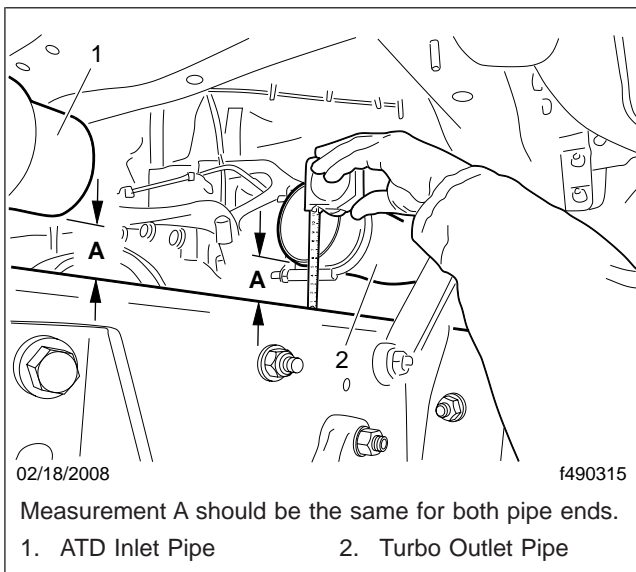

Fig. 2, Vertical Measurement
- 3.3 Measure the vertical distance between the pipe ends and the frame rail. See Fig. 2. This measurement must be the same for both pipe ends.